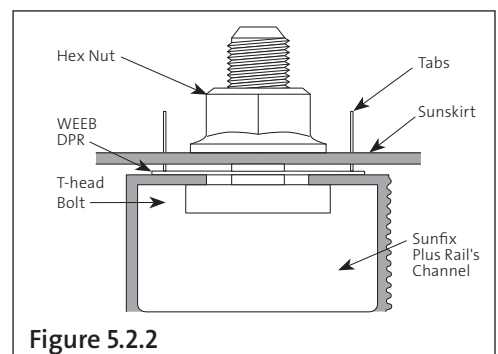

Figure 5.2.2
5.2.2. From the low end of the Sunfix plus rail, slide the assembly up so the Bolt's T-head is captured by the Sunfix plus rail's top channel (and WEEB rides along the top of the channel), as shown in **Figure 5.2.2**. The Sunskirt is in place when the Sunskirt's angle hits the butt end of the rail (the Sunskirt will be covering about an inch of the rail). Tighten Nut to 12 ft-lbs. Repeat for all modules on the bottom edge of the array.